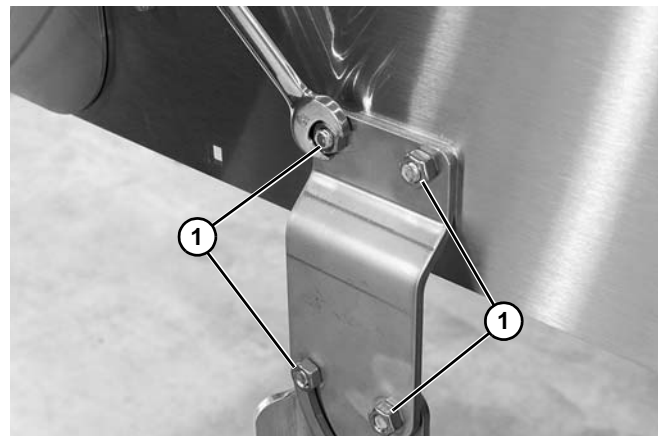

Figure 17
2. Remove fasteners (Figure 17, item 1) securing the stand brackets from one side of the conveyor and remove brackets.